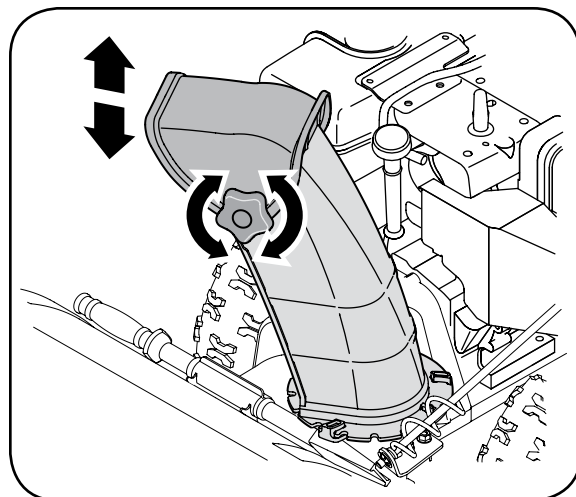

Figure 5
2. Pivot the chute upward or downward before retightening the wing knob. See Figure 5.